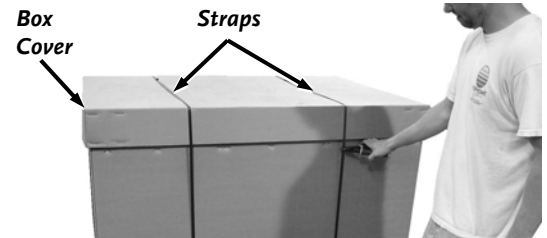

Figure 1
1. Wear eye protection as you stand to one side and cut the two bands securing the Shipping Box Cover to the shipping Box (**Figure 1**).